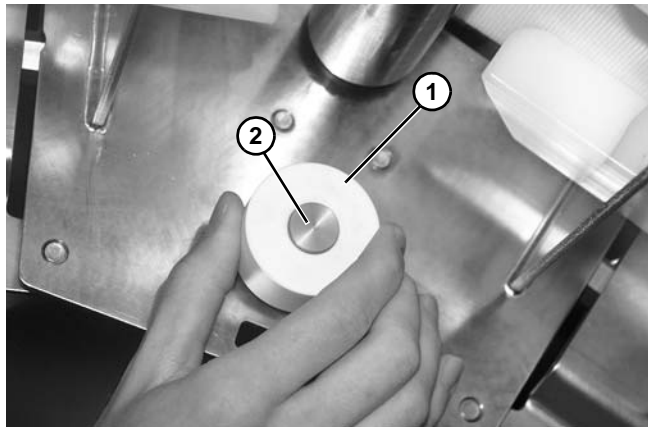

Figure 200
3. Remove roller (Figure 200, item 1) from hex post (Figure 200, item 2).